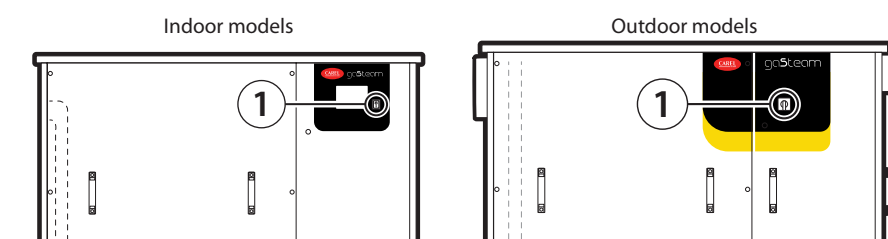

Fig. 4.j
**WARNING:** before making the connections, disconnect the power supply by turning the main switch (1 - Fig. 4.b) to OFF.